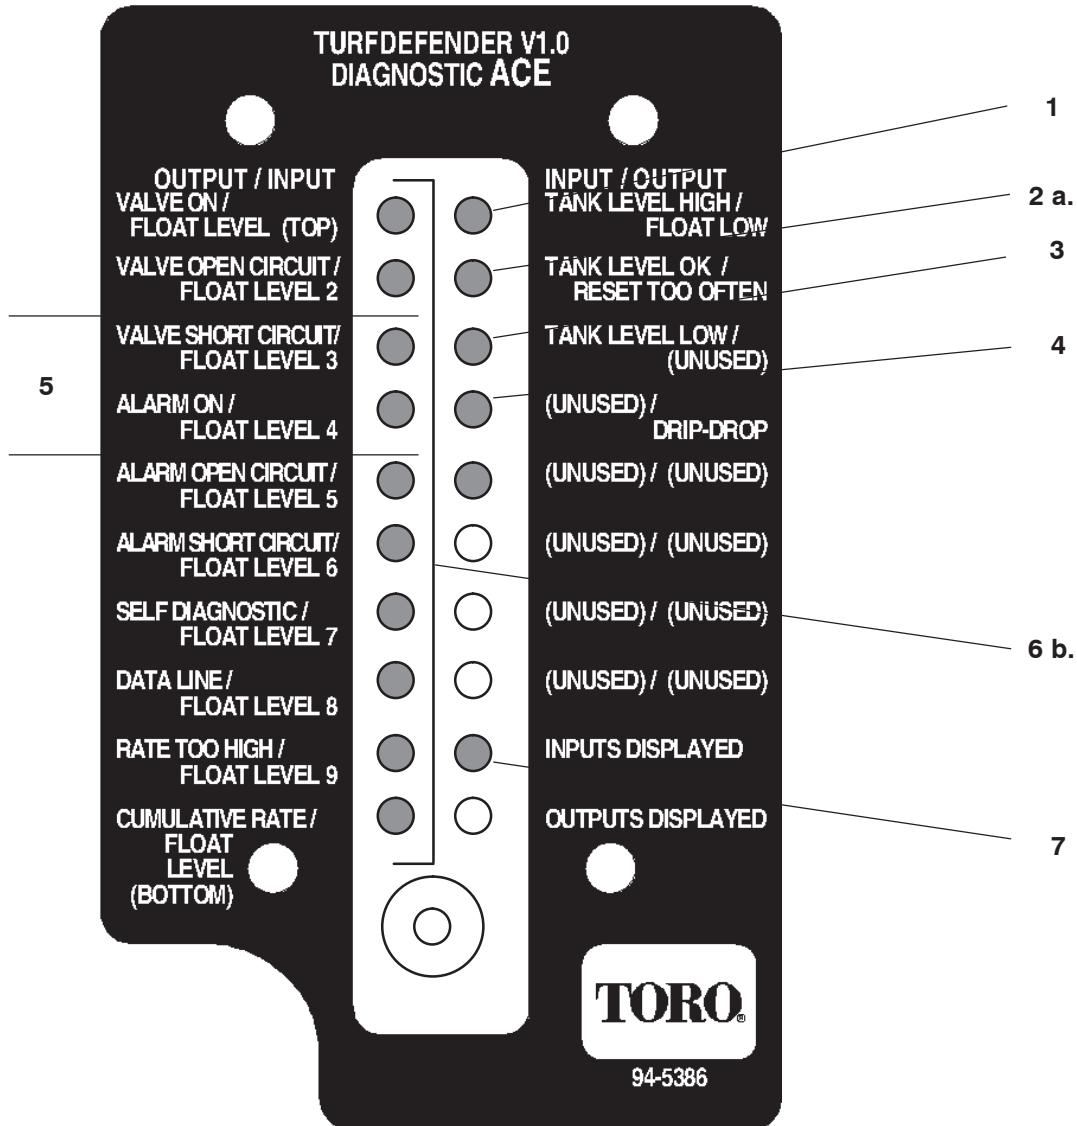

Figure 13
5. The left side of the tool displays the oil level in the tank. The oil is at the proper level when the 3rd light (from the top) or the 3rd and 4th lights are illuminated (Fig. 13). (When using TOROPC, the 3rd and 4th inputs may be highlighted).
1. When the “Inputs displayed” LED is lit, the actual Float position (1 or 2 LED’s on left side) and “Oil level OK” LED (right side) – should be displayed (Fig. 13).